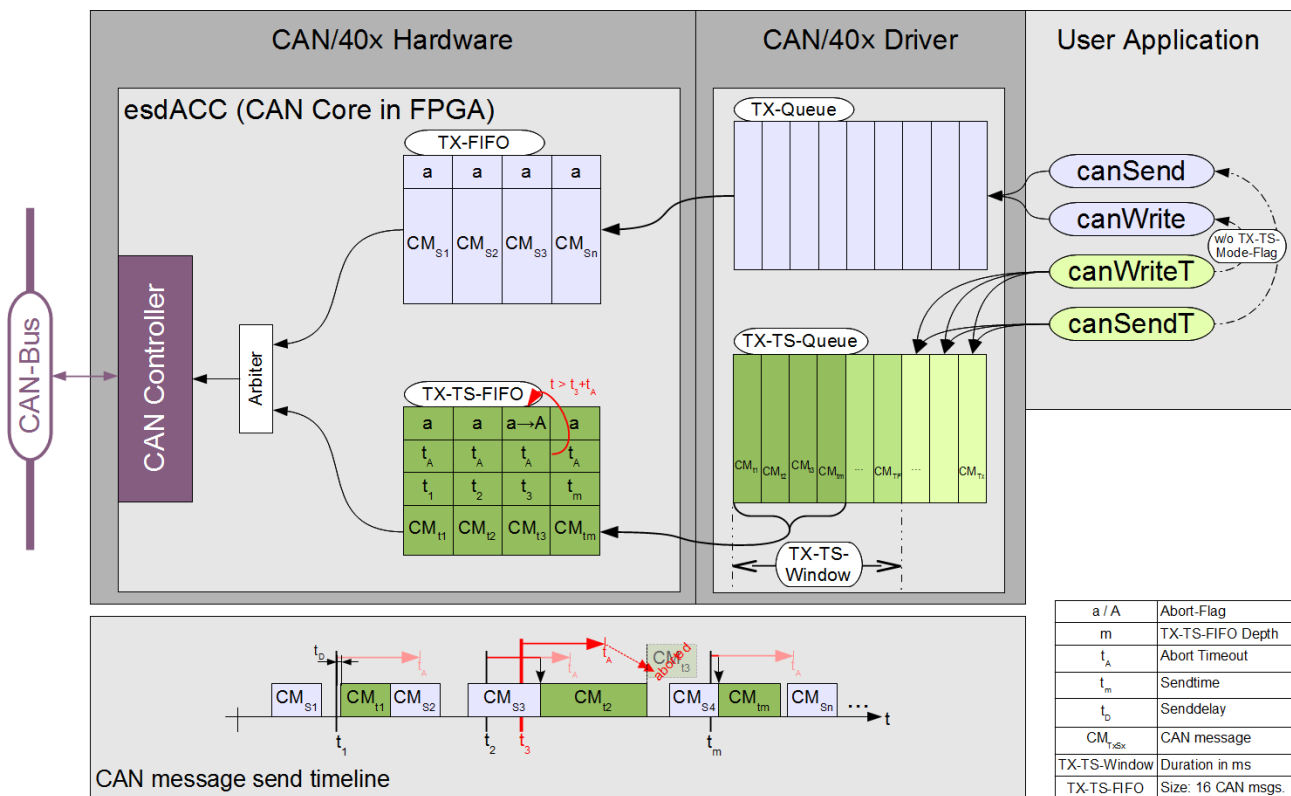

Figure 15: Timestamped TX with **canSendT()** and **canWriteT()** on CAN/40x family
- TX-TS-Window (see Figure 15):
- An arbiter will prioritize CAN frames from the TX-TS path which are ready to send over frames from the normal TX path ($t \geq t_x$ with $x=[1..m]$ in Figure 15)
- CAN hardware supporting this mechanism in hardware (like the CAN/400-family) reaches an accuracy of plus/minus one Bit-time, when sending onto a free CAN bus (t_b in Figure 15)
- The arbiter won't take a frame prior to the programmed time of transmission, even if the time would be reached, while a frame from the normal TX-FIFO is still in the process of transmission (see CM_{t2} in Figure 15)
- The frame is aborted, if the timeout (t_A in Figure 15) is reached at the moment the frame would be taken from the TX-TS-FIFO